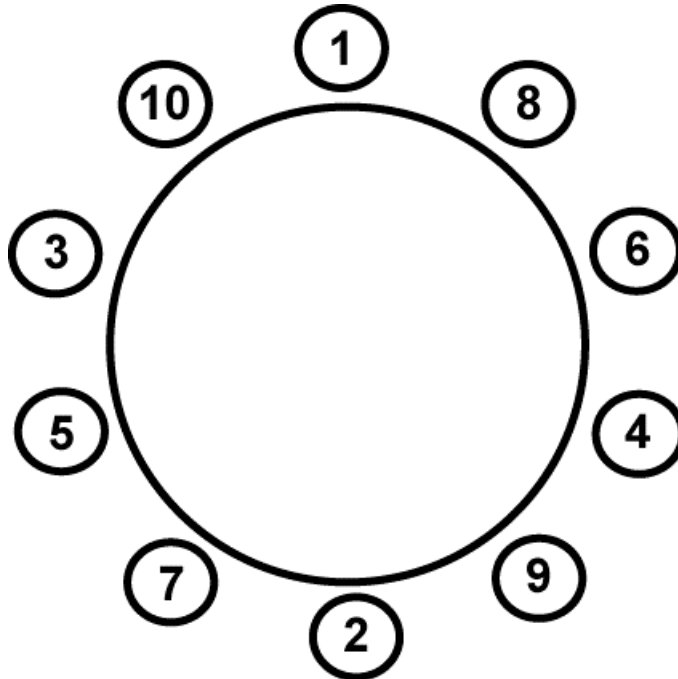

Figure 9-1 Wheel Lug Torque Sequence
2. Tighten to 50 lb/ft of torque in the sequence shown in figure 9-1.
3. Tighten to 450-500 lb/ft of torque in the sequence shown in figure 9-1.